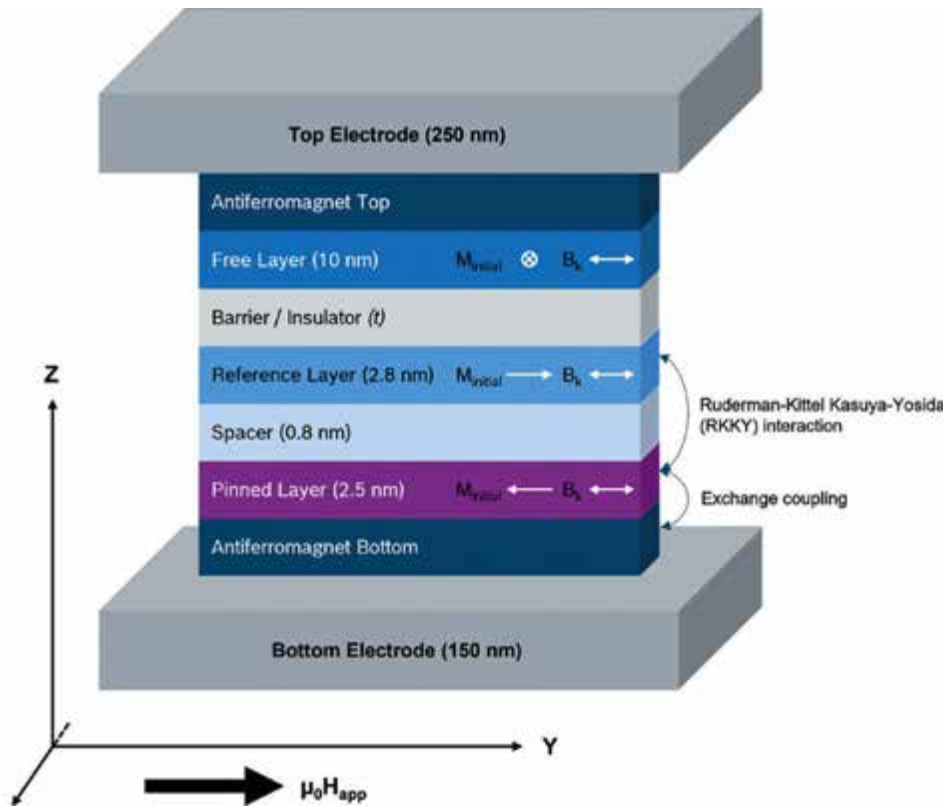

Figure 3: Schematic diagram of an MTJ stack and orientation of simulation input vectors relative to coordinate axes
The magnetic tunnel junction (MTJ) in Fig. 3 uses what is called exchange coupling. This TMR structure is an MTJ multilayer between two electrodes in a geometry where the current flows perpendicular to the plane. The complex stack consists of double exchange electrodes composed of a bottom electrode, a bottom anti-ferromagnet (AFM), a pinned layer (PL), a spacer, a reference layer (RL), a tunnel barrier, a sensing layer (SL), and the top electrode.
the exchange coupling between the FM and AFM layers is employed. Only magnetic fields above the exchange field can reverse the magnetization of the pinned layer. The arrows in Figure 3 indicate the direction of the magnetization and the applied magnetic field.